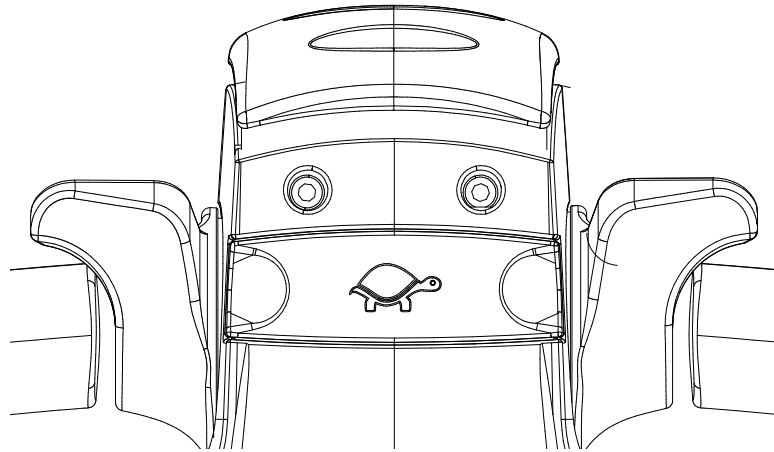

Figure 3
5.2.2 As shown in Figure 3, there is a Creep speed button on the handle. When the Creep speed button is pressed and the acceleration knob is turned, the truck will drive at a slow speed. This state is suitable for turning, stacking and picking up goods in and out of the shelf. When the tortoise speed button is released and the acceleration knob is turned, the truck will drive at normal speed.